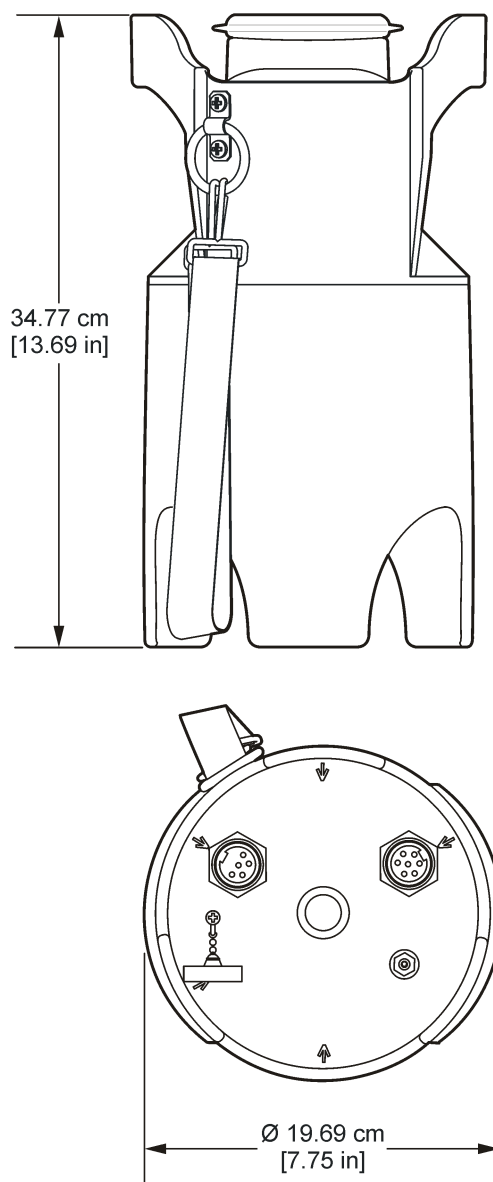

Figure 1 Flo-Logger dimensions
- Loosen the clamps for correct installation when in the manhole. See Figure 1 for installation dimensions.